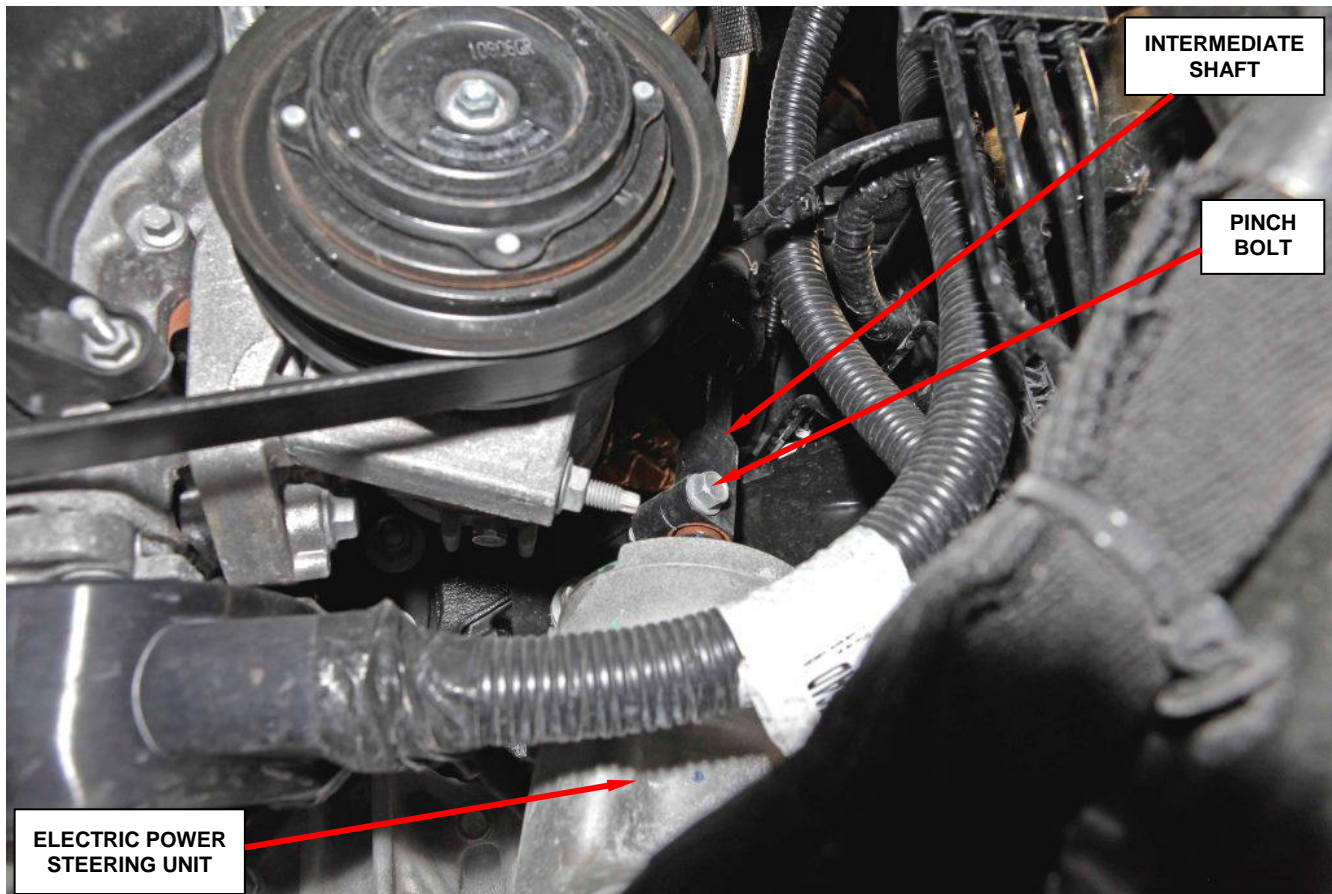

Figure 2 – Steering Column Shaft-to-Electric Power Steering (EPS) Unit Shaft Pinch Bolt
10. Remove and discard the original pinch bolt at the intermediate shaft (Figure 2).